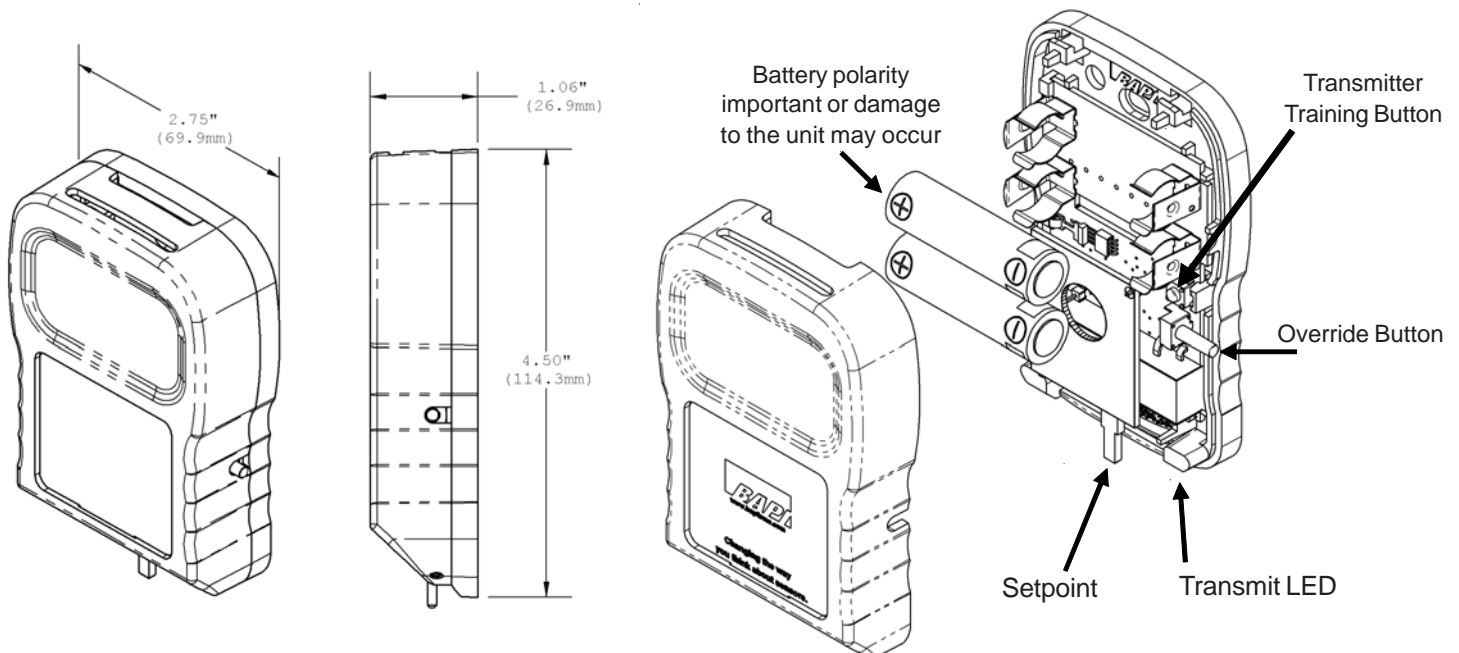
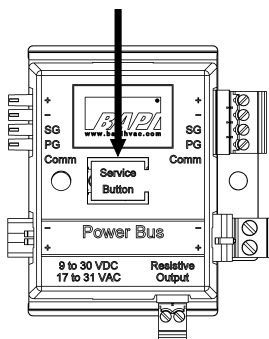

Fig. 2 Wireless Temperature, Humidity, Setpoint & Override Room Transmitter
Fig. 4: Output Module
5. Install provided batteries and follow polarity as shown above in figure 2 or damage may occur. The unit will work on just one battery however the battery life will be cut in half.
3. Remove the cover of the transmitter and install the batteries, observe polarity or damage to the unit may occur. The small LED at the bottom right of the circuit board, next to the setpoint (see Figure 2), should flash approximately once every 10 seconds, indicating a transmission. (The flash is very quick.)
4. Press and hold down the *Service Button* on the output module (Figure 4). Then, press and release the training button (Figure 2) on the transmitter. When the output module has received a valid data packet from the transmitter the output module's red LED will light and remain lit as long as you hold down the output module's service button. Release the service button on the output module and the output module's LED will go out. During normal operation the output module's LED will flash indicating data reception approximately once every 10 to 20 seconds in time with the transmitter trained to it. The output module is now receiving data from the transmitter.
2. Remove the cover of the transmitter and install the batteries, observe polarity or damage to the unit may occur. The small LED at the bottom right of the circuit board, next to the setpoint (see Figure 2), should flash approximately once every 10 seconds indicating a transmission. (The flash is very quick.)
3. Press and hold down the *Service Button* on the output module (Figure 4). Then, press and release the training button (Figure 2) on the transmitter. When the output module has received a valid data packet from the transmitter the output module's red LED will light and remain lit as long as you hold down the output module's service button. Release the service button on the output module and the output module's LED will go out. During normal operation the output module's LED will flash indicating data reception approximately once every 10 to 20 seconds in time with the transmitter trained to it. The output module is now receiving data from the transmitter.
3. Remove the cover of the transmitter and install the batteries, observe polarity or damage to the unit may occur. The small LED at the bottom right of the circuit board, next to the setpoint (see Figure 2), should flash approximately once every 10 seconds indicating a transmission. (The flash is very quick.)
4. Press and hold down the *Service Button* on the output module (Figure 4). Then, press and release the **OVERRIDE** button (Figure 2) on the transmitter. (NOTE: If unit was not ordered with an override button, the button is inside the case). When the output module has received a valid data packet from the transmitter, the output module's red LED will light and remain lit as long as you hold down the output module's service button. Release the service button on the output module and the output module's LED will go out. During normal operation the output module's LED will flash indicating data reception approximately once every 10 to 20 seconds in time with the transmitter trained to it. The output module is now receiving data from the transmitter.
4. Place the previously trained **Temperature** or **Setpoint** output module's jumper J4 in the Override Training Position. (See Figures 6 and 7) Press and hold down the **Service Button** on the output module (Figure 4). Then, press and release the **VERRIDE** button (Figure 2) on the transmitter. When the output module has received a valid data packet from the transmitter, the output module's red LED will light and remain lit as long as you hold down the output module's service button. Release the service button on the output module and the output module's LED will go out. During normal operation the output module's LED will flash indicating data reception approximately once every 10 to 20 seconds in time with the transmitter trained to it. The output module is now receiving data from the transmitter. Remove the jumper on J4 and store it on the right Storage Position Pin. (Figure 7) Replace the Output Module's cover.
4. Press and hold down the **Service Button** on the output module (Figure 4). Then, press and release the **VERRIDE** button (Figure 2) on the transmitter. When the output module has received a valid data packet from the transmitter, the output module's red LED will light and remain lit as long as you hold down the output module's service button. Release the service button on the output module and the output module's LED will go out. During normal operation the output module's LED will flash indicating data reception approximately once every 10 to 20 seconds in time with the transmitter trained to it. The output module is now receiving data from the transmitter.